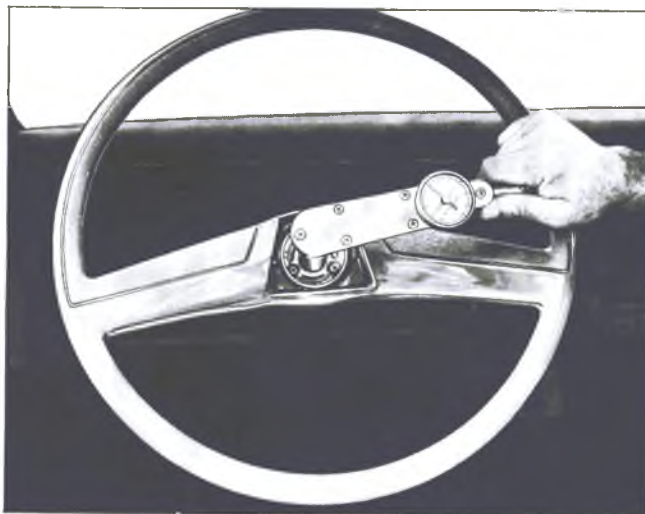

Fig. 34—Checking Torque at Steering Wheel
7. Measure and record "bearing drag" by applying a torque wrench with a socket on the steering wheel nut and rotating through a 90° arc (fig. 34).